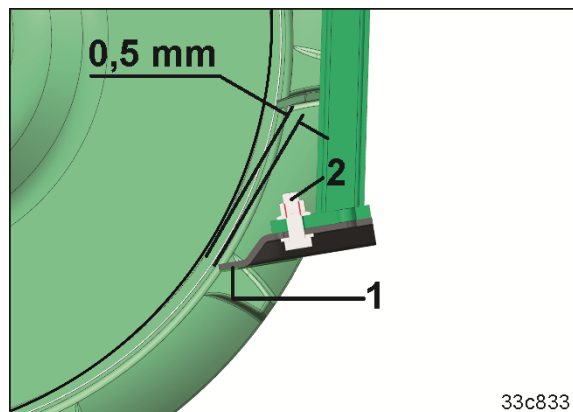

Fig. 125
4. Unscrew the screw (Fig. 125/2).
5. Screw on the scraper (Fig. 125/1) with a distance of 0.5 mm to the roller tube.